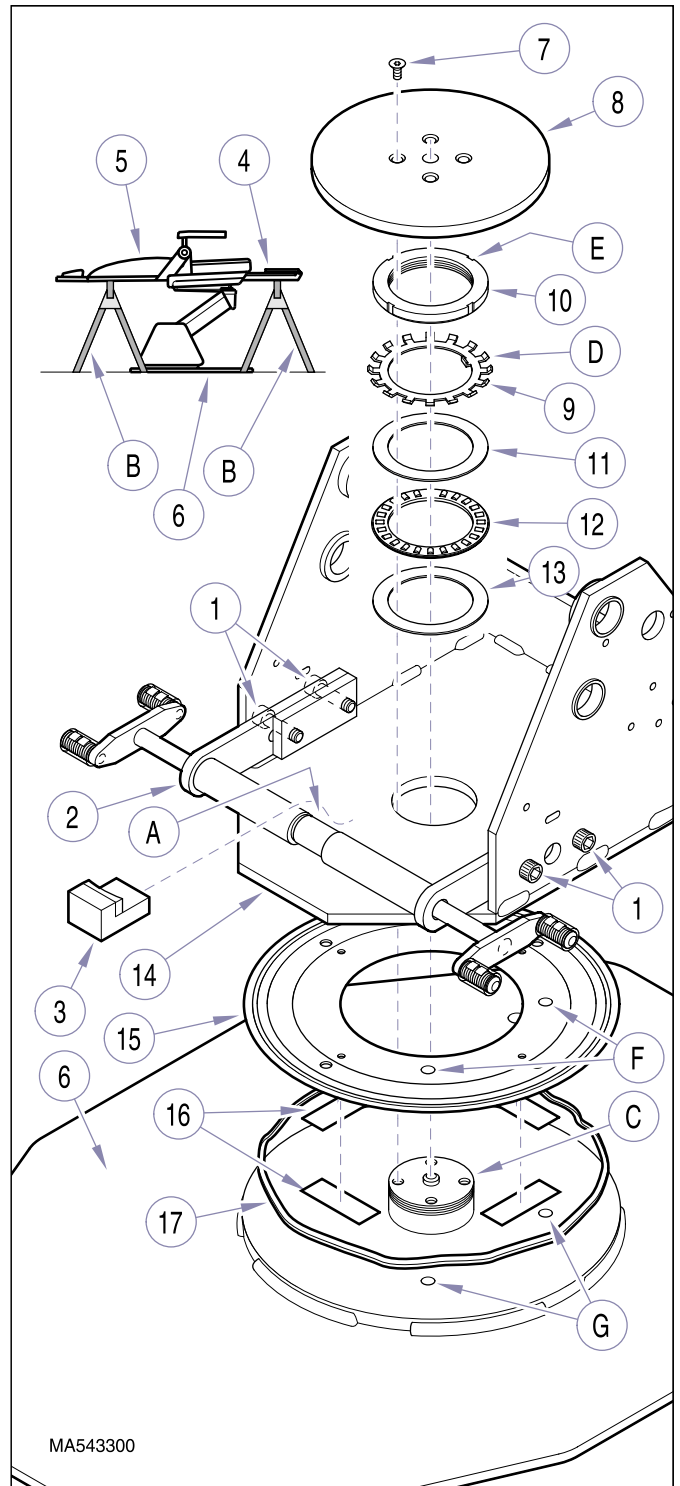

Figure 4-31. Base Rotation Bearing Removal / Installation
- (2) Remove three screws (1) and L.H. base cover (4) from center base cover (3).
- (3) Raise BASE UP function all the way up.
- (4) Lower BACK DOWN function all the way down.
- (5) Loosen four screws (1, Figure 4-31) and pull brake cam (2) away from center of table.
- (6) Remove brake shoe (3) from brake cam cutout (A).
- (1) Clean mating surfaces of base plate (6, Figure 4-31) and rotation bearing (15) with warm water and soap solution. Using clean rag, wipe off excess water and then allow parts to air dry.
- (2) Attach four pieces of two sided tape (16) to bottom of rotation bearing (15). Then, apply a bead of RTV sealant (17) to the bottom of rotation bearing.
- (3) Align two locator holes (F) of rotation bearing with two locator holes (G) of base plate (6); then install rotation bearing (15) on base plate (6).
- (4) Position base plate (6) under base weldment (14).
- (5) Run BASE UP function to lower base weldment (14) on base plate hub (C). Lower base weldment until it rests firmly on base plate hub and then remove supports (B) from under foot section (4) and back section (5).
- (6) Apply bearing grease to bearing races (11 and 13) and bearing (12).